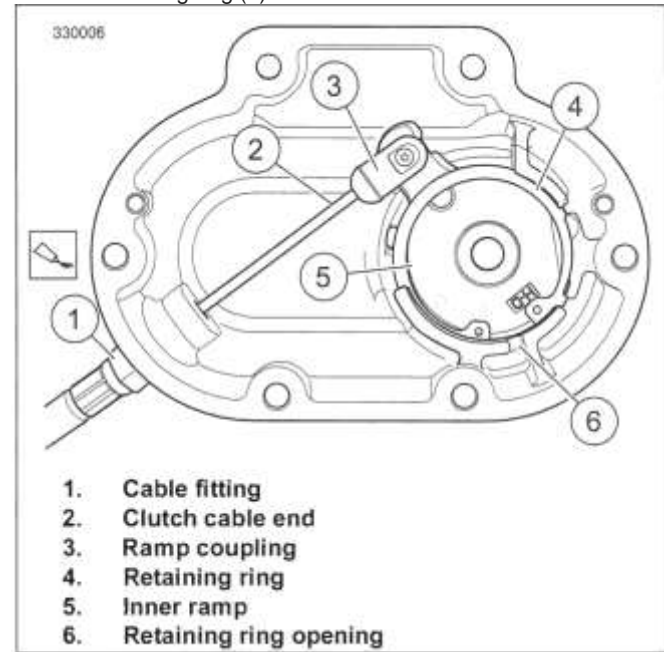
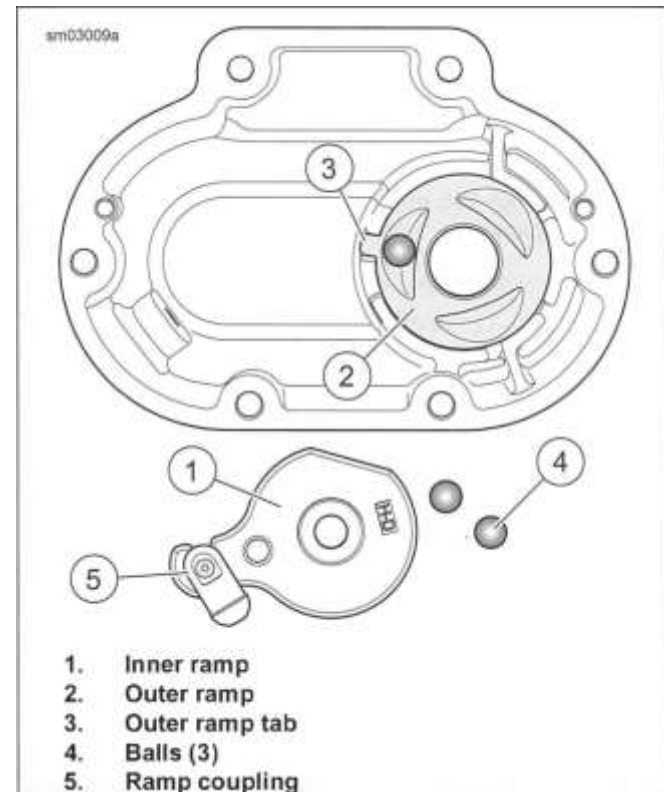

Figure 5-5. Clutch Cable Connection
Figure 5-6. Coupling and Ramp Assembly
2. See Figure 5-5. Disconnect clutch cable.
- a. Remove retaining ring (4).
- b. Lift inner ramp (5) and ramp coupling (3) out of clutch release cover.
- c. Disconnect clutch cable end (2) from ramp coupling (3).
3. Remove coupling (3) from inner ramp.
4. See Figure 5-6. Remove balls (4) and outer ramp (2).
5. See Figure 5-5. Remove cable fitting (1) from clutch release cover.
1. See Figure 5-5. Apply a drop of LOCTITE 243 MEDIUM STRENGTH THREADLOCKER AND SEALANT (blue) to the clutch cable fitting (1).
3. See Figure 5-6. Place outer ramp (2) with ball socket side up in clutch release cover. Confirm outer ramp tab (3) is in clutch release cover slot.
4. Apply a multi-purpose grease to the balls (4) and outer ramp sockets. Place a ball in each of the outer ramp sockets.
5. See Figure 5-5. Connect clutch cable.
- a. Connect clutch cable end (2) to ramp coupling (3).
- b. Install coupling on inner ramp (5).